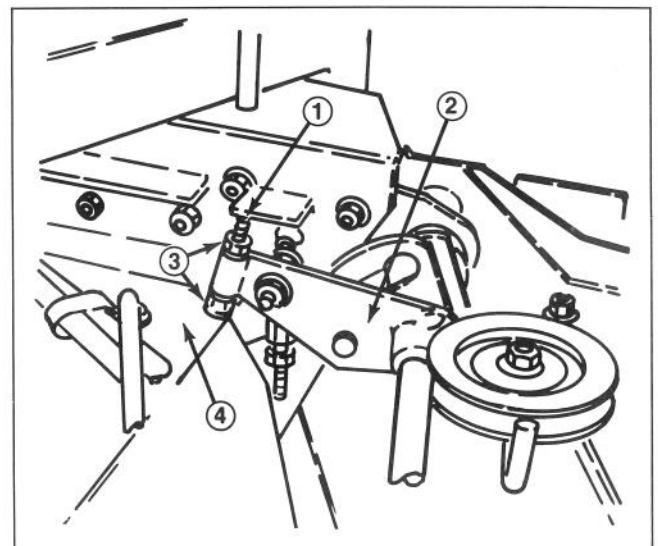

Figure 36
2. Pull up on mechanical door lift lever (Fig. 36). Hand tighten the wing stop bolt jam nuts so that there is no gap between the bolt head and the main deck surface.